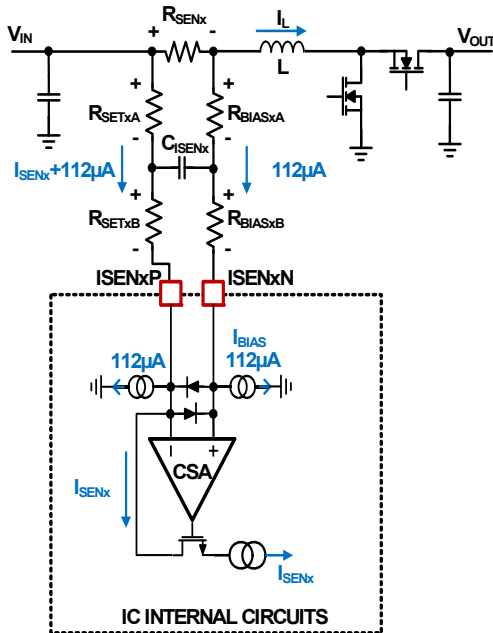

FIGURE 60. CURRENT SENSING BLOCK DIAGRAM
The ISL78227 peak current control architecture senses the inductor current continuously for fast response. A sense resistor is placed in series with the power inductor for each phase. The ISL78227 Current Sense Amplifiers (CSA) continuously sense the respective inductor current as shown in Figure 60 by sensing the voltage signal across the sense resistor R_{SENx} (where “x” indicates the specific phase number and same note applied throughout this document). The sensed current for each active
phase will be used for peak current mode control loop, phase current balance, individual phase cycle-by-cycle peak current limiting (OC1), individual phase overcurrent fault protection (OC2_PEAK), input average constant current (CC) control and average overcurrent protection (OC_AVG), diode emulation and phase drop control. The internal circuitry shown in Figure 60 represents a single phase. This circuitry is repeated for each phase.
The RC network between R_{SENx} and $ISENxP/N$ pins as shown in Figure 60 is the recommended configuration. The $ISENxP$ pin should be connected to the positive potential of the R_{SEN_CHx} through resistor R_{SETx} , where in Figure 60 R_{SETx} is composed by R_{SETxA} plus R_{SETxB} . R_{SET} is used to set the current sense gain externally.
Since there is an $112\mu A$ bias current sinking to each of the $ISENxP$ and $ISENxN$ pins, R_{BIASx} with same value to R_{SETx} should be placed between the $ISENxN$ pin to the low potential of the R_{SENx} , where in Figure 60 R_{BIASx} is composed by R_{BIASxA} plus R_{BIASxB} .
It is recommended to have $R_{SETxA} = R_{BIASxA}$ and $R_{SETxB} = R_{BIASxB}$, and insert a capacitor C_{ISENx} between them as shown in Figure 60. This will form a symmetric noise filter for the small current sense signals. The differential filtering time constant equals to $(R_{SETxA} + R_{BIASxA}) \cdot C_{ISENx}$. This time constant